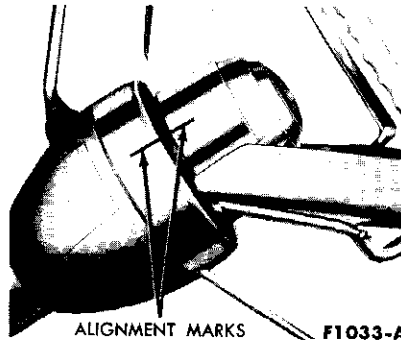

FIG. 1—Straight-Ahead Position Marks
1. Drive the car in a straight line far enough to establish the straight-ahead position of the front wheels, and then mark the steering wheel hub and the steering column collar (Fig. 1). Do not adjust the steering wheel spoke position at this time. If the front wheels are turned at any time during the inspection, align the marks to bring the wheels back to the straight-ahead position.